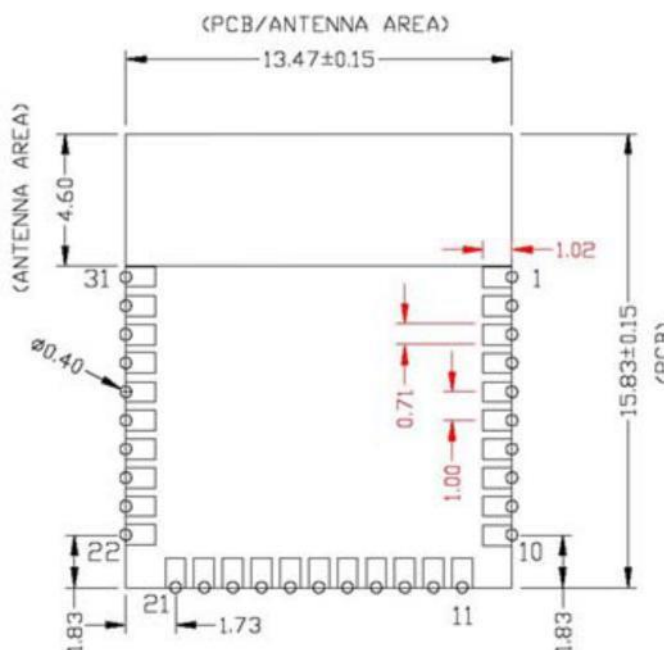

Figure 3 Solder pad dimensions (seen from bottom)
As shown in the bottom view of **Figure 2**, the CYW30739B2-P5TAI051 has 31 connections to a host board via solder pads (SP). **Table 2** and **Figure 3** detail the solder pad length, width, and pitch dimensions of the CYW30739B2-P5TAI051 module.